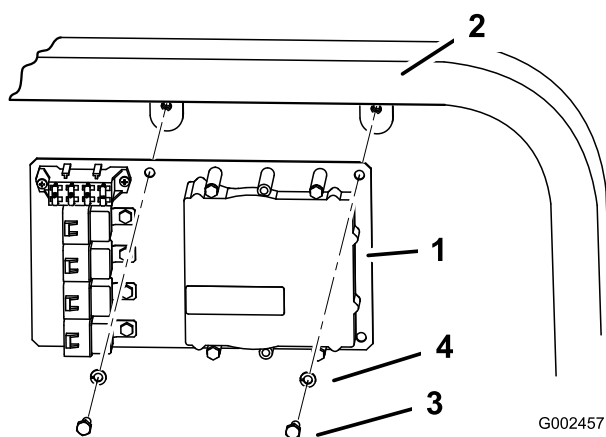

Figure 8
A. For the Multi-Pro 1200 and 1250, install the mount plate using 2 bolts (5/16 x 3/4 inch) and 2 lock washers (5/16 inch) as shown in Figure 8.